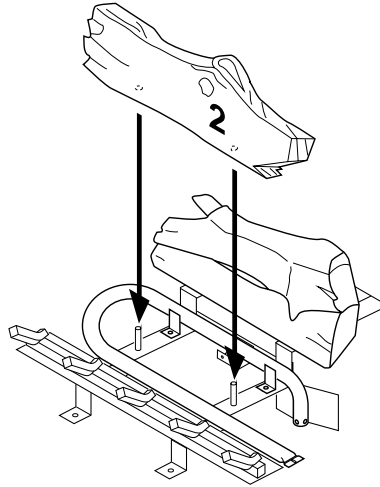

Figure 52 - Installing Log No. 2
3. Rest log #2 (large front log) on the pins on the front part of the grate (see Figure 52).